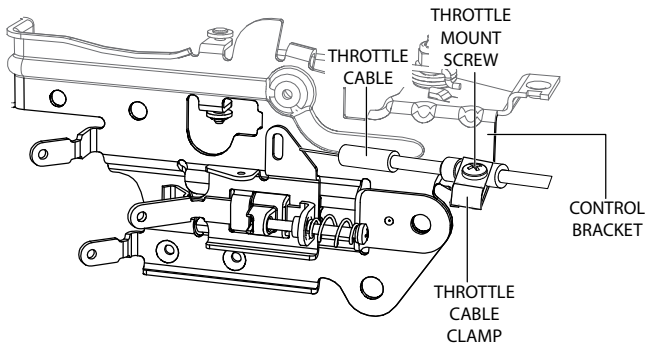
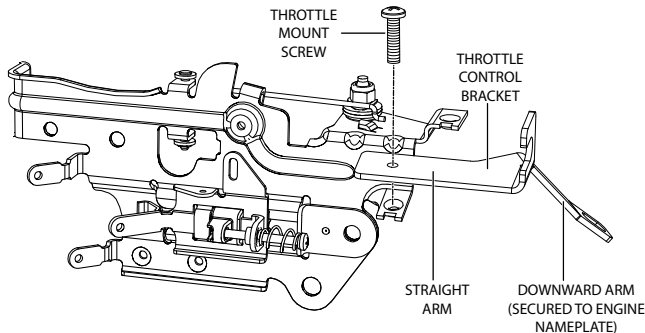

Figure 7. Throttle Cable Removal (Cable Clamp)
Figure 14. Throttle Stop Bracket and Throttle Mount Screw Installation
- Once the throttle cable wire has been pulled free from the brass hex standoff, loosen the throttle mount screw (Figure 7) that is attached to throttle cable clamp at the other end of control bracket.
- Place the throttle control bracket straight arm where the throttle mount screw was located as shown in Figure 14.
- Insert the throttle mount screw through the throttle control bracket (P/N 32498) as shown in Figure 14. Throttle mount screw was used on previous assembly as shown in Figure 7.